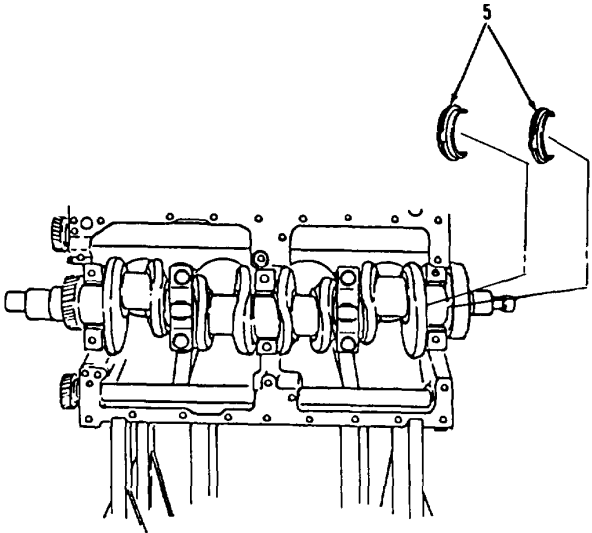

Figure 13-17.
- 9. Remove and discard two thrust bearings (5, Figure 13-17) from rear crankshaft journal if crankshaft end play is less than 0.006 inch or more than 0.020 inch.
1. Install two new thrust bearings (5, Figure 13-17) on crankshaft journal of rear main bearing, fifth bearing from front.